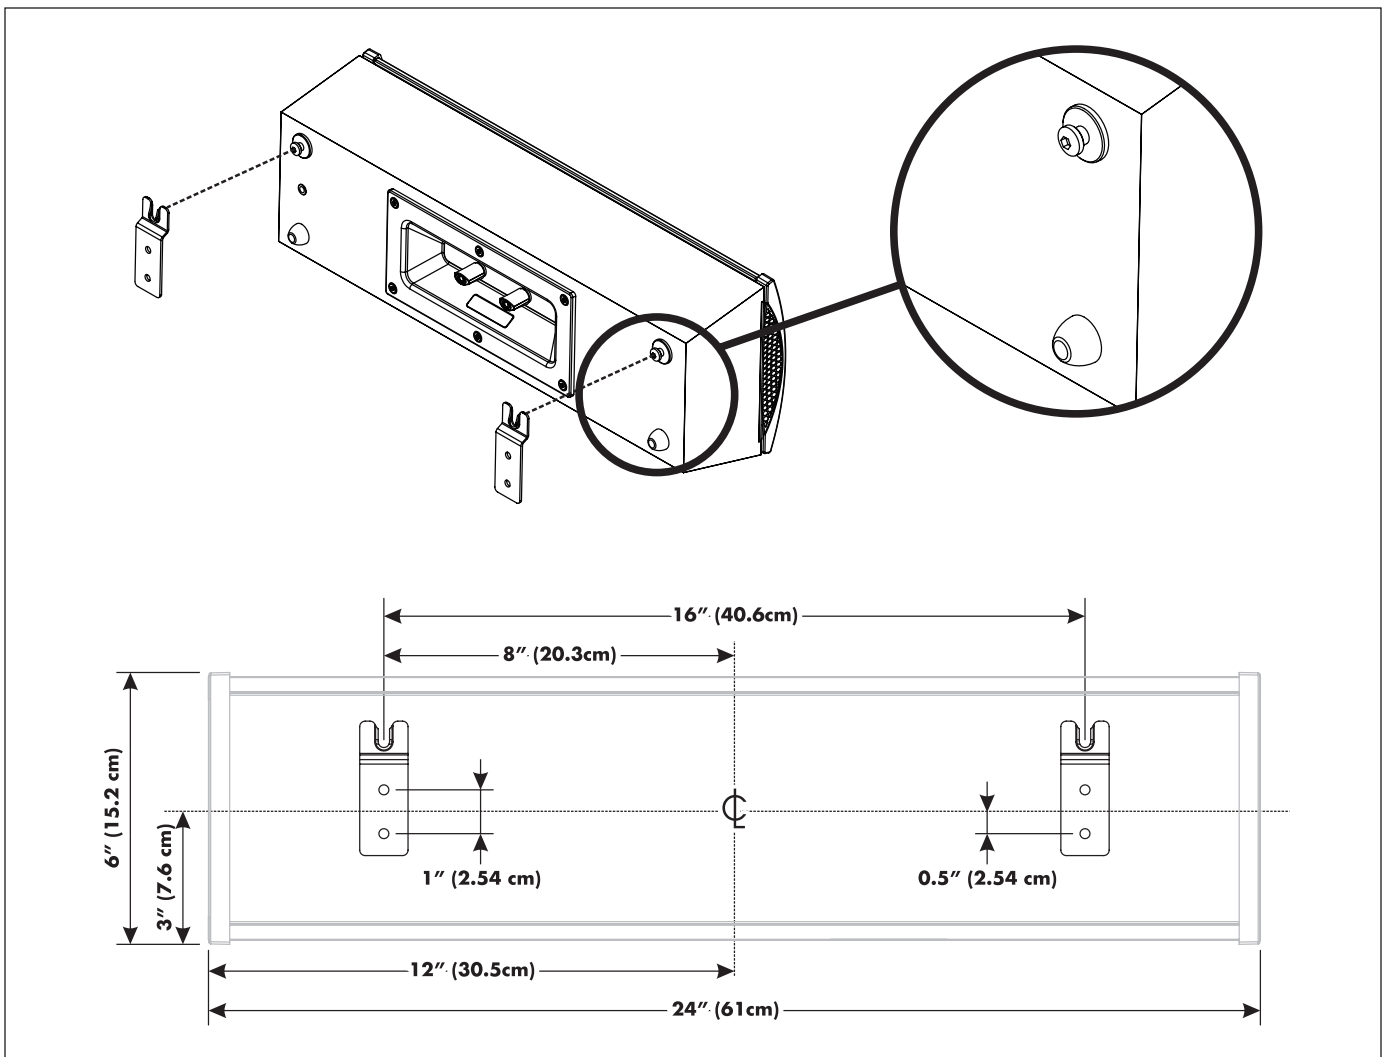

Figure 5. Horizontal hardware configuration and mounting dimensions
NOTE: Before beginning study the horizontal and vertical hardware configuration drawings (figures 5 & 6).
- 1 Using the dimensioned drawings (figure 5 & 6), a ruler, and level, determine your mounting locations.
- 5 On the back of the Encore TF, install shoulder bolts as shown in figures 5 or 6. Install 2 rubber bumpers in the bottom holes. Test fit the speaker. Adjust the bracket positions until the speaker fits. **IMPORTANT!** At this point do not allow the speaker to hang freely—there are not enough screws installed to fully support its weight.